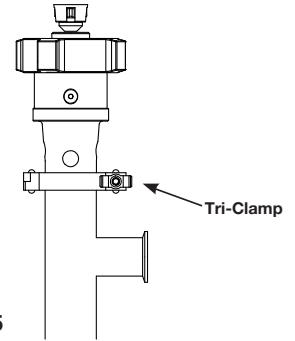

Figure 5
5. Remove Tri-Clamp connection (see Figure 5)
- Install tri-clamp connecting bearing housing to outer tube (see Figure 5, page 4).